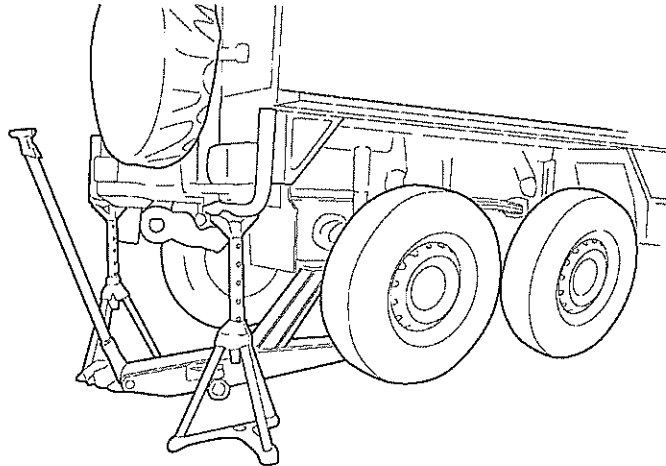

Fig 1 Vehicle supports
4.1 Lift vehicle with jack under rearmost differential casing until wheels are clear of ground (see Fig 1).
- 6.1 Lift vehicle with jack under rearmost differential casing until wheels are clear of ground (see Fig 1).